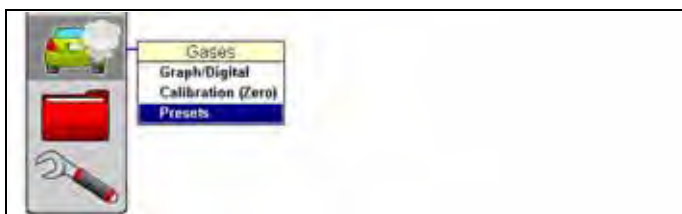

Figure 4-33 Sample Presets menu
1. From the main menu, select **Gases > Presets** (Figure 4-33).